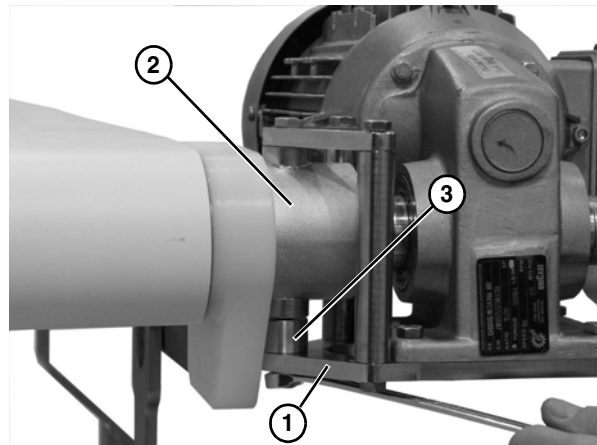

Figure 53
2. Remove the bottom gearhead mounting bar (**Figure 53, item 1**) from the motor mounting bracket (**Figure 53, item 2**). Remove spacer (**Figure 53, item 3**).